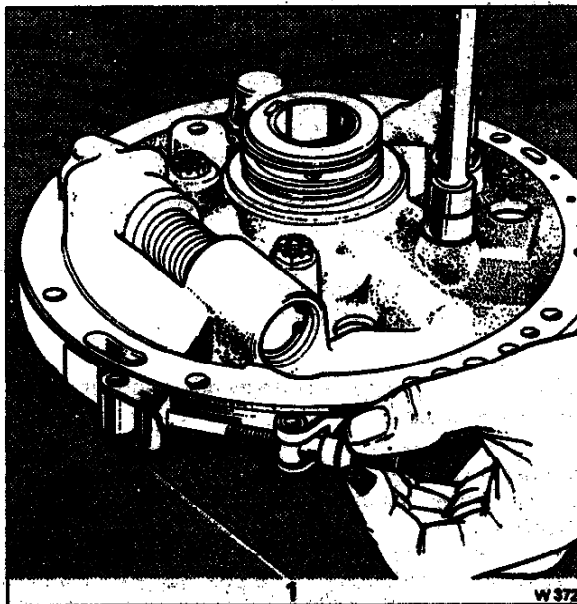

Fig. T85 Aligning the pump cover with the pump body
10. Fit the pump body and cover alignment band (J-21355) around the pump assembly. Tighten the band to align the cover with the body (see Fig. T85).